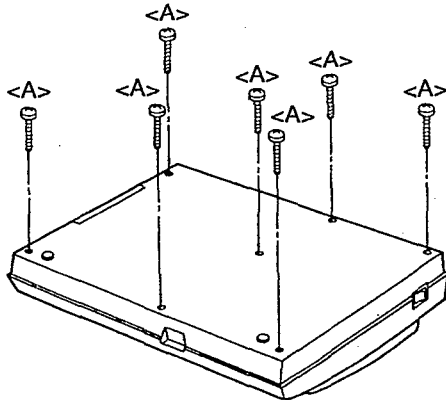

Figure 1
- (1) Turn this unit (FZ-10) upside down and place it.
- (2) Remove seven screws <A> as shown in figure 1.
- (3) Turn it over again and gradually raise the top case.